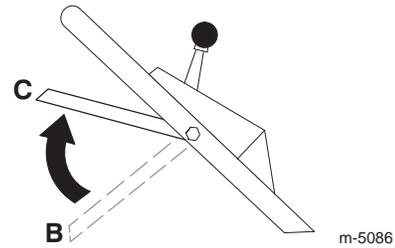

Figure 15
- Bring the blade control bail up into the middle position about 5 inches (12.7 cm) below the handle cross bar (Position **C** in Fig. 15).
- Release the blade control bail (Position **B** in Fig. 15).